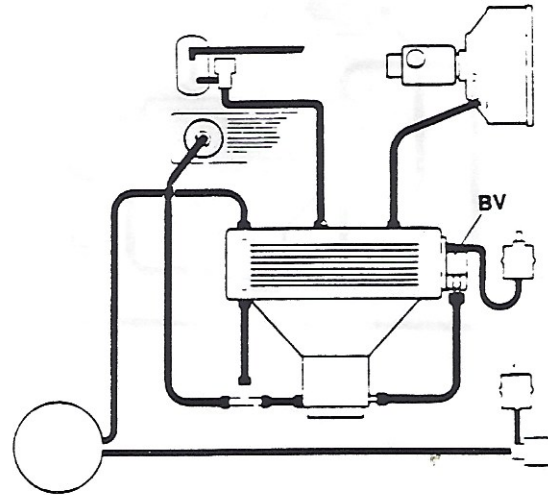

fig.67
Examine the by-pass hose for cracks and renew if in doubt. Unseal the hose connections at the butterfly housing and at the by-pass air valve housing (BV) and fit the hose as indicated in Figure 67.